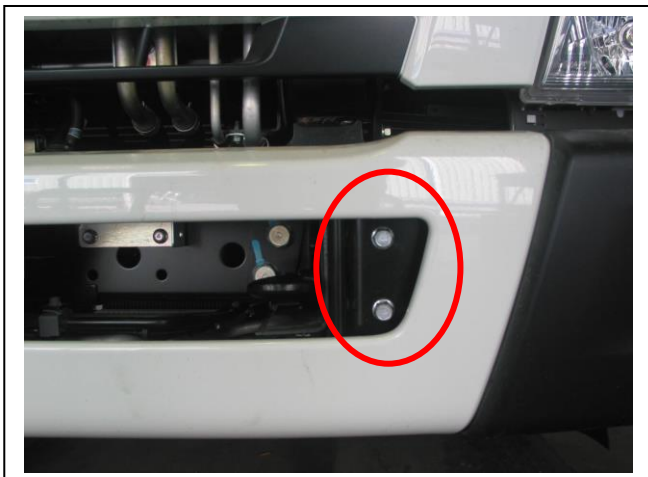

Figure 1 – Bolts that hold bumper on
1. Remove bumper from vehicle, two 14mm head bolts (per side). **See figure 1.**